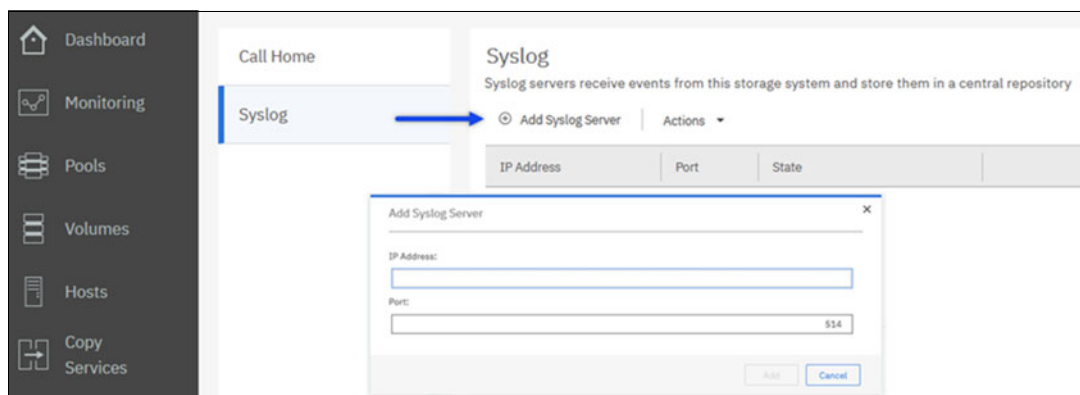

Figure 9-29 Syslog settings window
6. To add a Syslog server, click **Add Syslog Server**, as shown in Figure 9-29, and provide the following parameters: